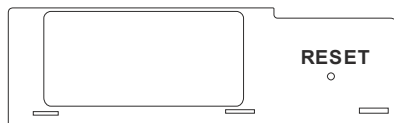

Figure 56
1. Press and hold, using a pointed object, the receiver's reset button until you hear two acoustic signals (see **Figure 56**).